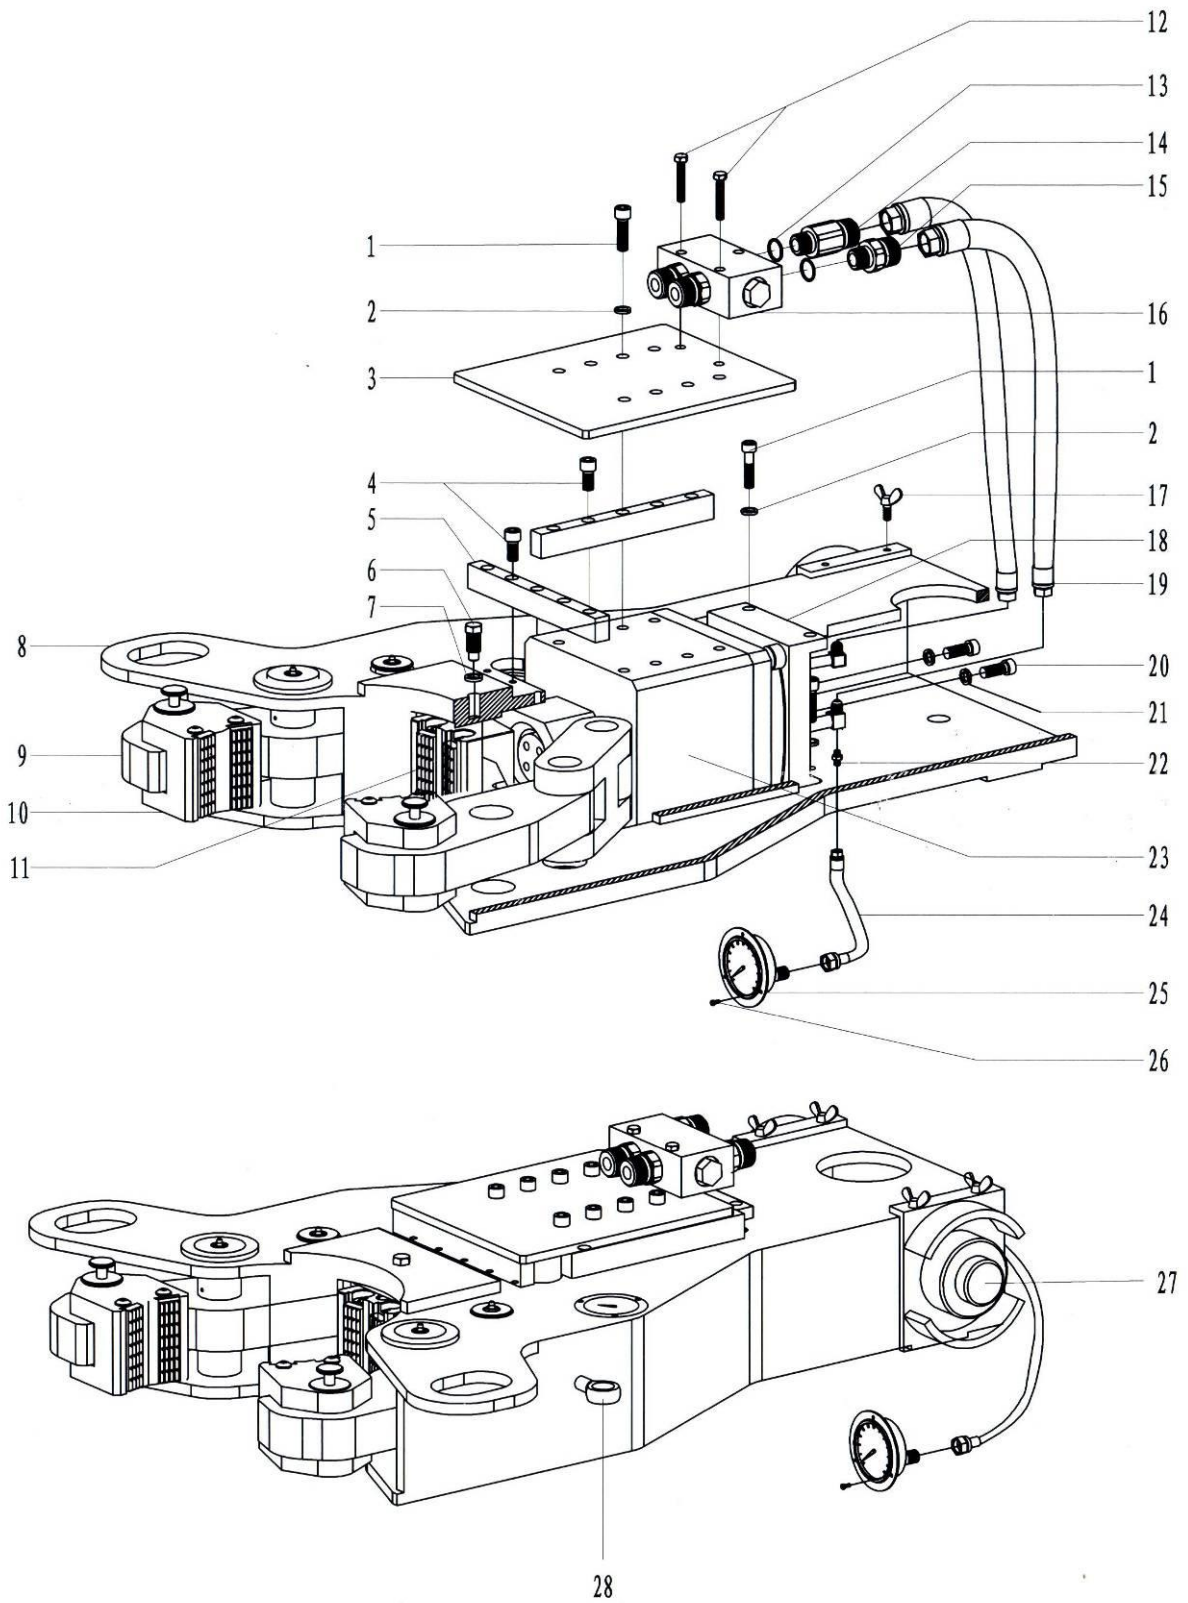

Fig.7-19
19. Assembly of back tong (Fig 7-19, Table 19)